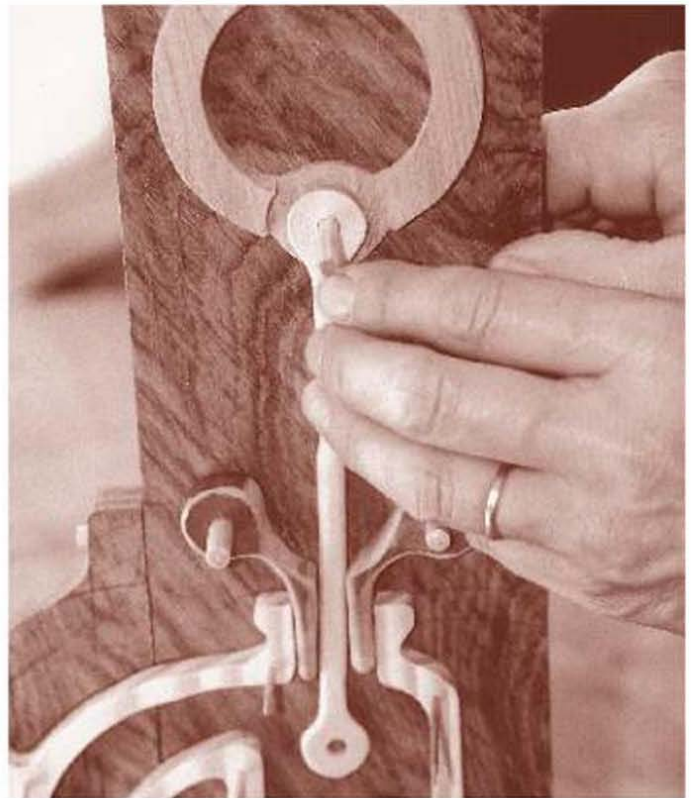

FIGURE 24-11
- 3** Set the rods and the joint linkage in place with the pivot dowels a tight fit in the linkage and a loose fit through the rods (Figure 24-11). The bottom rod should be a nice snug fit between the wedges.